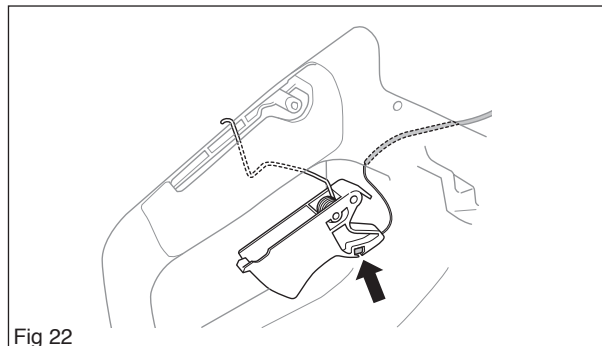

Fig 22
Fit the throttle cable (A), throttle control (B) and spring (C). (see figure 22)